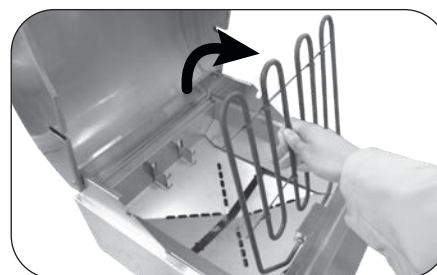

Fig. 24-2 Raise element upward
3. Grasp the cool cooking element, lift upward and apply pressure towards the right of the grill. Once it clears the support tab, completely raise it up (Fig. 24-2).